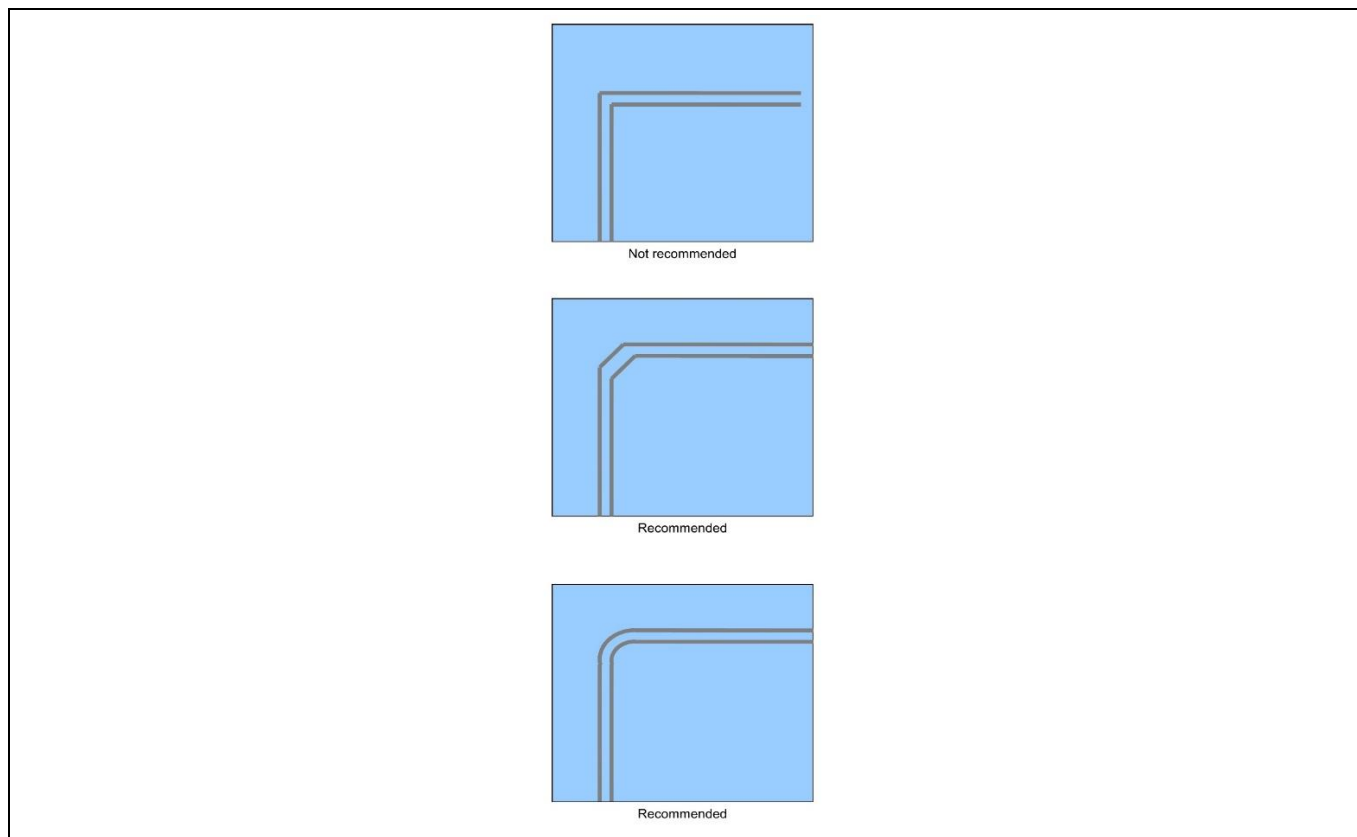
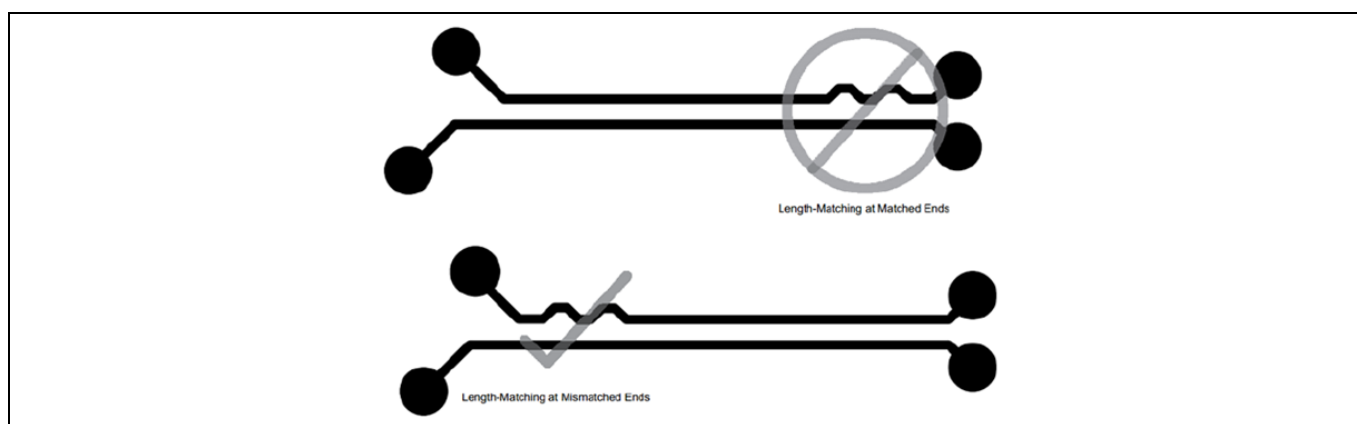

Figure 21 USB signal bends
Figure 22 SuperSpeed/HS signal length matching
- On the SuperSpeed/HS USB signal lines, use as few bends as possible. Do not use a 90-degree bends. Use 45-degree or rounded (curved) bends if necessary. See Figure 21.
- Differential SS pair trace lengths should be matched within 0.12 mm (5 mils). The HS D+ and D– signal trace lengths should be matched within 1.25 mm (20 mils). Always make adjustments (by putting loops as shown in Figure 21) for SuperSpeed USB/HS signal trace lengths near the USB receptacle and not near the device. The figure shows the matched and mismatched ends near the receptacle. Always adjust the length at the mismatched ends. An example for length matching for the SuperSpeed signal. See Figure 22.